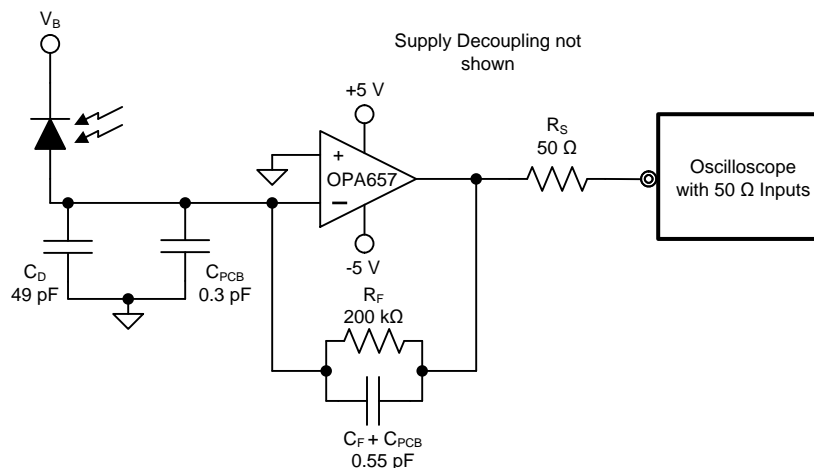

Figure 34. Wideband, High-Sensitivity, Transimpedance Amplifier Diagram
this term only begins to be a significant term versus the input offset voltage for source impedances greater than 750 k Ω . This would also be the feedback resistor value for transimpedance applications (see Figure 34) where the output DC error due to inverting input bias current is on the order of that contributed by the input offset voltage. In general, except for these extremely high-impedance values, the output DC errors due to the input bias current may be neglected.
As an example, compute the worst-case output DC error for the transimpedance circuit of Figure 34 at 25°C and then the shift over the 0°C to 70°C range given the following assumptions.
Designs that require high bandwidth from a large area detector with relatively high transimpedance gain benefit from the low input voltage noise of the OPA657. This input voltage noise is peaked up over frequency by the diode source capacitance, and can, in many cases, become the limiting factor to input sensitivity. The key elements to the design are the expected diode capacitance (C_D) with the reverse bias voltage (V_B) applied, the desired transimpedance gain, R_F , and the GBP for the OPA657 (1600 MHz). Figure 34 shows a transimpedance circuit with the parameters as described in Table 1. With these three variables set (and including the parasitic input capacitance for the OPA657 and the PCB added to C_D), the feedback capacitor value (C_F) may be set to control the frequency response. To achieve a maximally-flat second-order Butterworth frequency response, the feedback pole should be set to:
Adding the common-mode and differential mode input capacitance (0.7 + 4.5) pF and the trace PCB capacitance of approximately 0.3 pF to the 49-pF diode source capacitance of Figure 34, and targeting a 200-kΩ transimpedance gain using the 1600-MHz GBP for the OPA657 requires a feedback pole set to 3.5 MHz. This requires a total feedback capacitance of 0.2 pF. Such low capacitance values are difficult to achieve due to parasitics from the PCB and the surface mount components.
Equation 8 gives the approximate closed loop bandwidth of the system to be 4.8 MHz. Because the target bandwidth is only 1 MHz, the feedback capacitance can be increased to a more practical value while maintaining the bandwidth requirements of the design. A feedback capacitance of 0.550 pF was chosen. This includes the physical 0.4-pF feedback capacitor in addition to the 0.1-pF parasitic capacitance from the feedback resistor and around 50-fF capacitance from the PCB traces. Removing the ground and power planes from under the surface mount components helps to minimize this parasitic capacitance. The simulated closed loop bandwidth of Figure 34 was 1.7 MHz. The phase margin was close to 82°. This design should result in a system with negligible overshoot to a pulsed input.
3. **Careful selection and placement of external components preserve the high-frequency performance of the OPA657.** Resistors should be a very low reactance type. Surface-mount resistors work best and allow a tighter overall layout. Metal film and carbon composition axially leaded resistors can also provide good high-frequency performance. Again, keep the leads and PCB trace length as short as possible. Never use wirewound-type resistors in a high-frequency application. Because the output pin and inverting input pin are the most sensitive to parasitic capacitance, always position the feedback and series output resistor, if any, as close as possible to the output pin. Other network components, such as noninverting input termination resistors, should also be placed close to the package. Where double-side component mounting is allowed, place the feedback resistor directly under the package on the other side of the board between the output and inverting input pins. Even with a low parasitic capacitance shunting the external resistors, excessively high resistor values can create significant time constants that can degrade performance. Good axial metal film or surface-mount resistors have approximately 0.2 pF in shunt with the resistor. For resistor values greater than $1.5\text{ k}\Omega$, this parasitic capacitance can add a pole and/or zero below 500 MHz that can effect circuit operation. Keep resistor values as low as possible consistent with load driving considerations. It has been suggested here that a good starting point for design would be to keep $R_F \parallel R_G < 150\text{ }\Omega$ for voltage amplifier applications. Doing this automatically keeps the resistor noise terms low, and minimizes the effect of the parasitic capacitance. Transimpedance applications (see Figure 34) can use whatever feedback resistor is required by the application as long as the feedback-compensation capacitor is set considering all parasitic capacitance terms on the inverting node.